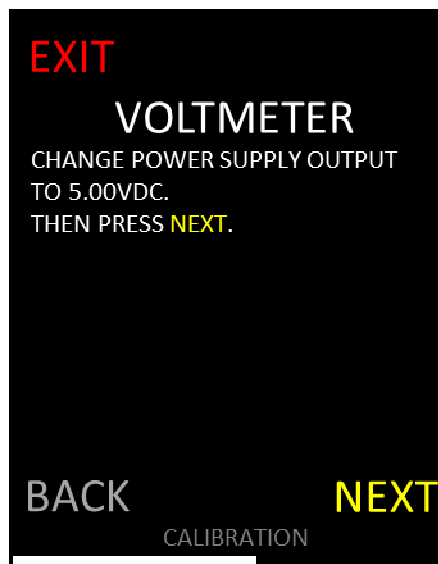

Figure 18. Voltmeter (5V) Setup
- 8.4 Adjust the second Power Supply until the digital voltmeter reads  $5.000 \pm 0.005$  VDC. Select NEXT (Figure 18) to continue to the Voltage Load Check.